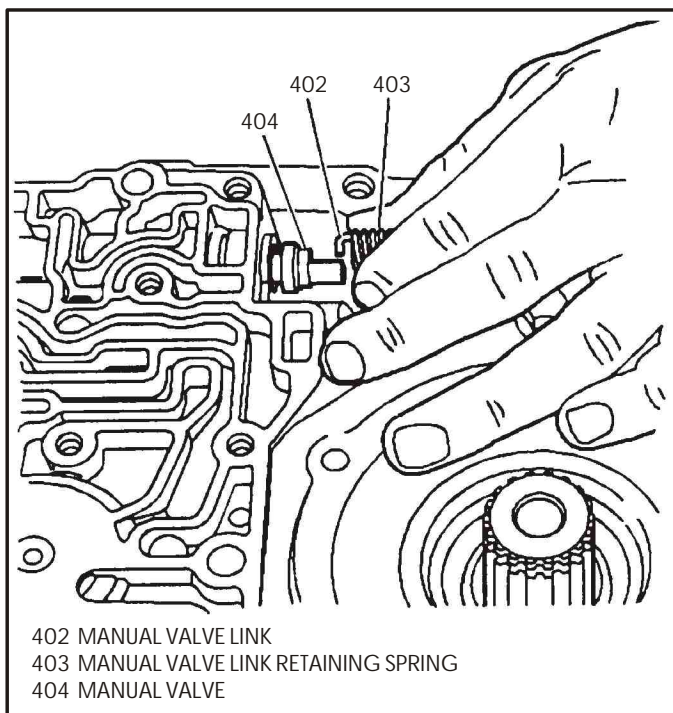

Figure 180
90. Pull back the manual valve spring (403) and connect the manual valve link (402) to manual valve (404), as shown in Figure 180.